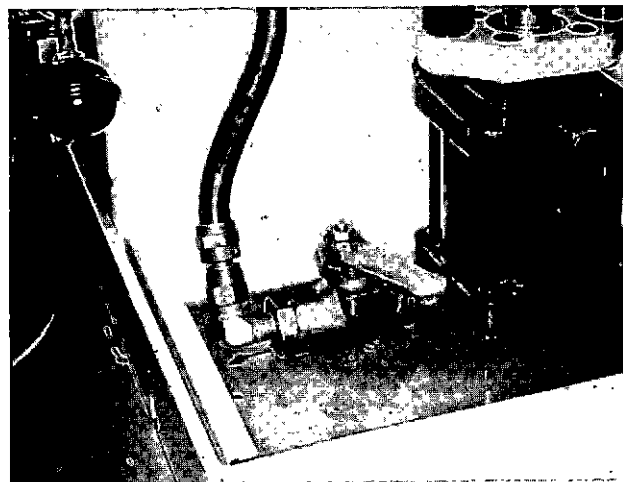

Fig. 4-42, (F60127). The hydraulic valve
7. When both the air valve and the hydraulic valve are opened, hydraulic fluid is admitted under the piston in the cylinder and lifts the injector into the clamped piston. Any leak in the hydraulic clamping system will directly affect the injector loading and must not be permitted, Fig. 4-42.